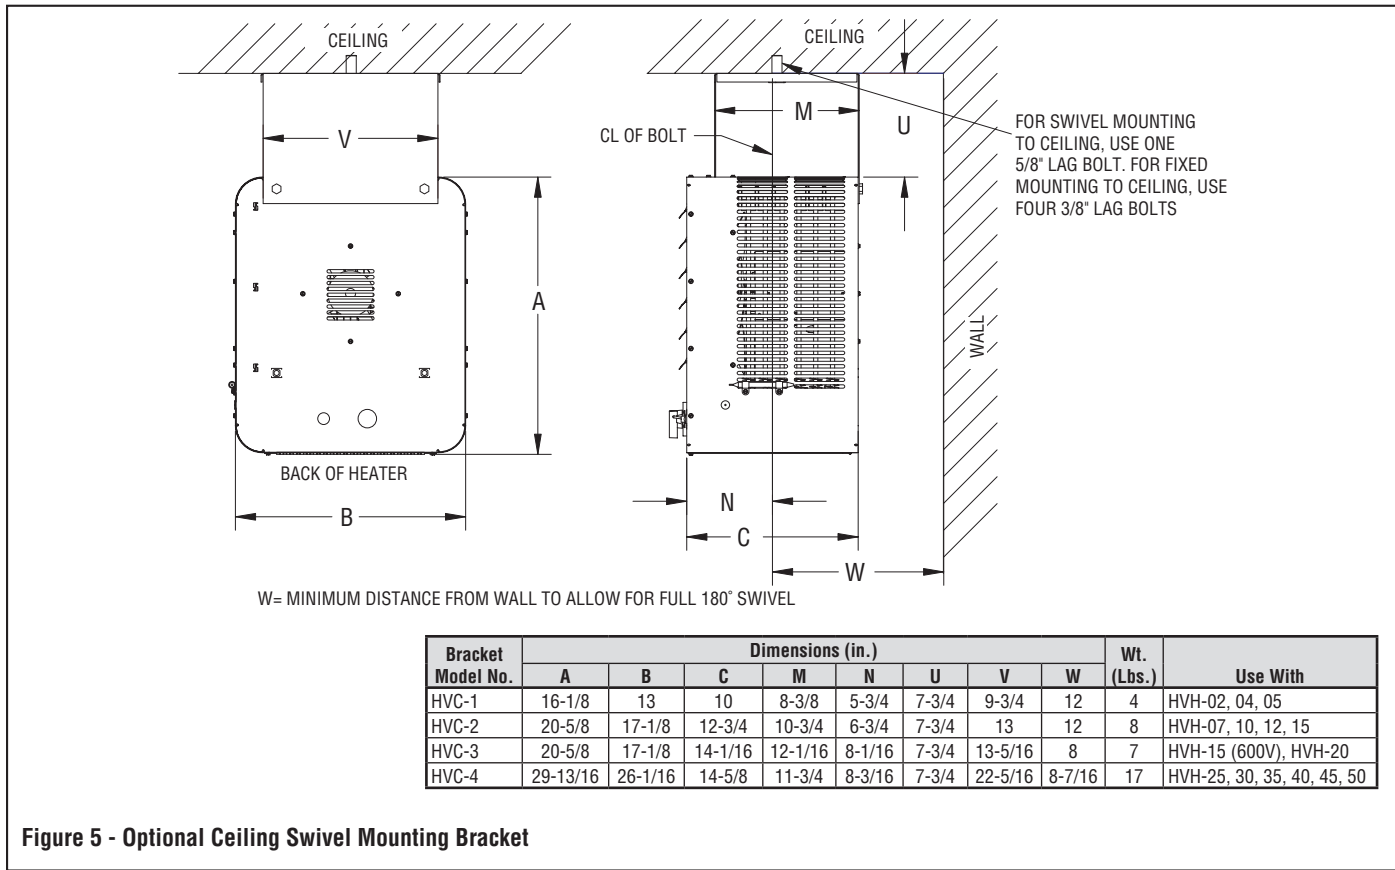

Figure 5 - Optional Ceiling Swivel Mounting Bracket
B. For ceiling heights of 12 feet or less, maximum mounting height is determined by the use of the mounting bracket offered for these heaters. Minimum spacing to ceiling is 7-3/4". (See Figure 5)
CEILING – Horizontal Airflow (See Figure 5):
The heater may be rotated to discharge in the desired direction. Open and adjust louvers to desired position. See Figure 5 and 6 for additional mounting details.